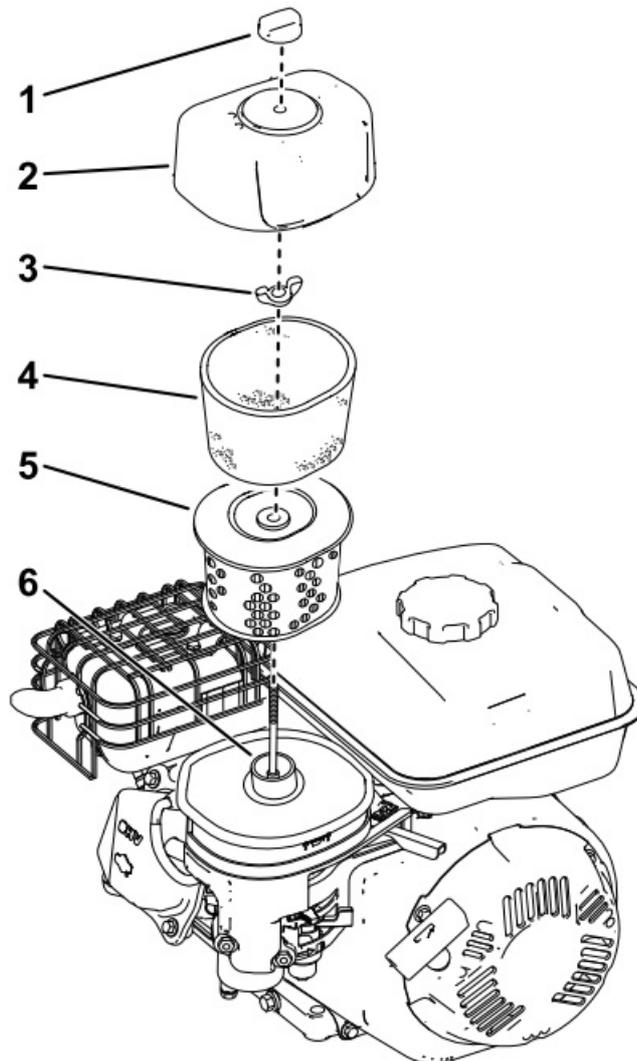

Figure 21
2. Remove the nut that secures the cover (Figure 21).
3. Remove the air-filter cover (Figure 21). Important: Ensure that no dirt or debris fall into the base.